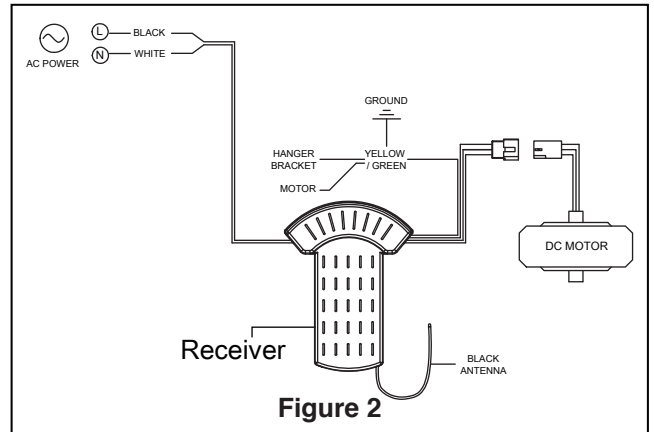

Figure 2
Your new ceiling fan will require a grounded electrical supply line of 120 volts AC, 60 HZ, 15 Amp Circuit. Electrical code requires use of a fan-rated outlet box to support the extra weight and motion associated with a ceiling fan. A fan-rated box will be labeled as such and typically supports up to a 70lb ceiling fan. Fan-Rated Outlet Boxes vary in ratings and design. Ensure the ratings of your ceiling fan outlet box meet the requirements for the ceiling fan being installed. Figure 1, Figure 2 and Figure 3 depicts different structural configurations that may be used for mounting the outlet box.
Deep box (Figure 2)
1. Securely attach the ceiling junction box **acceptable for ceiling support** into the building structure. Junction box is not supplied with the fan. (Figure 2)
- 2.** Assemble the lower blade plate to the blade by aligning holes of the lower blade plate with the blade holes on the bottom of the fan and using the washer head screws. (Figure 2)
2. Remove the three screws from the motor coupler assembly. Assemble the wire tray assembly to the coupler using the removed screws and securely tighten all screws. (Figure 2)
2. Connect wires using connectors as shown in Figure 2.
- 2. Push the wire tray assembly up to ceiling bracket assembly. (Figure 2)
- 2. Restore electrical power to the outlet box by turning the electricity on at the main fuse box. (Figure 2)